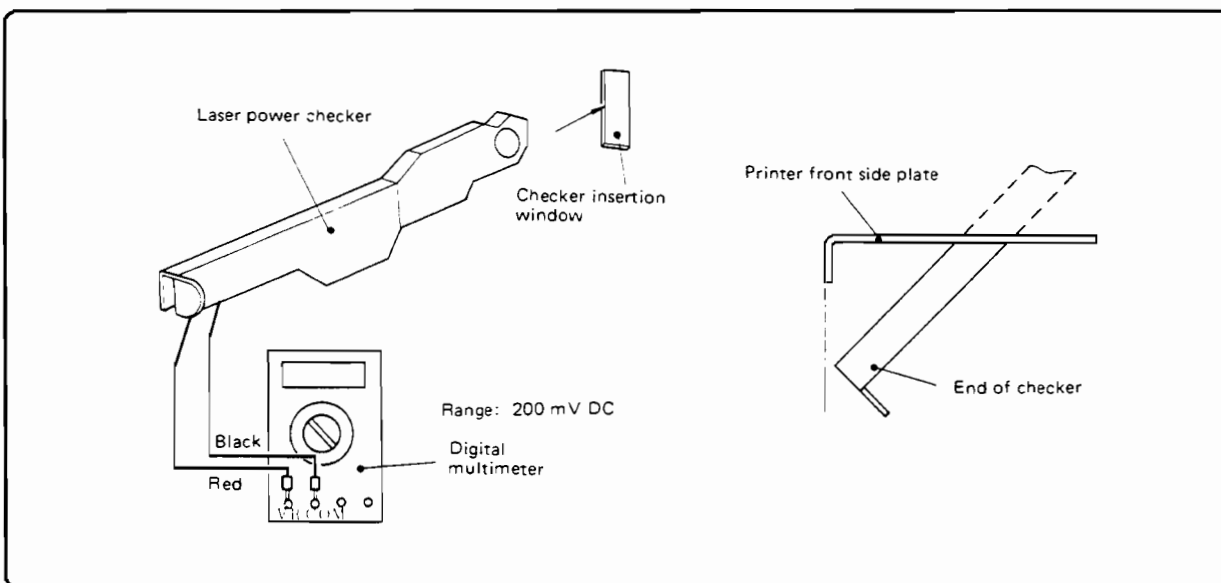

Figure 6-48. Laser Power Checker
7. Slide the laser power checker into the checker insertion window as shown in Figure 6-48. Ensure that the protective cover is removed from the end of the Laser Power Checker and that the power checker clicks in place solidly.
When the laser power checker has been inserted far enough, you should hear a click. When this occurs, verify that the back of the checker is close to the front side plate of the printer as shown in Figure 6-48.
8. Connect the red and black leads from the Laser Power Checker to the Digital Multimeter and set the range to 200 mV DC (see Figure 6-48).